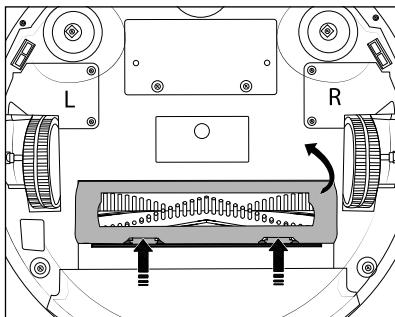

Fig. 14
- ♦ Press the two release buttons on the rotary brush cover 17 to release it. Remove the rotary brush cover 17 from the appliance (see Fig. 14).